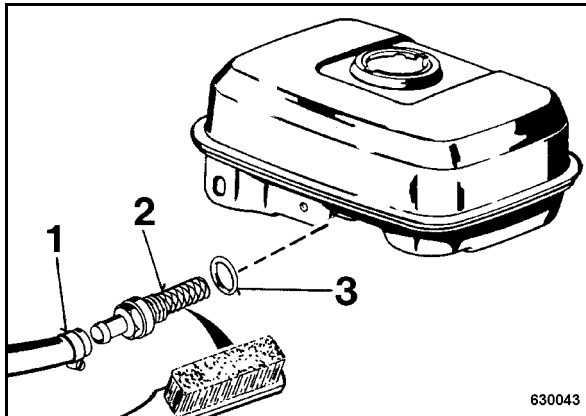

Fig. 65
- Open the hose clamp (1) (Fig. 65) and pull off the hose.
- Unscrew fuel screen (2).
- Check the seal (3), replace if necessary.